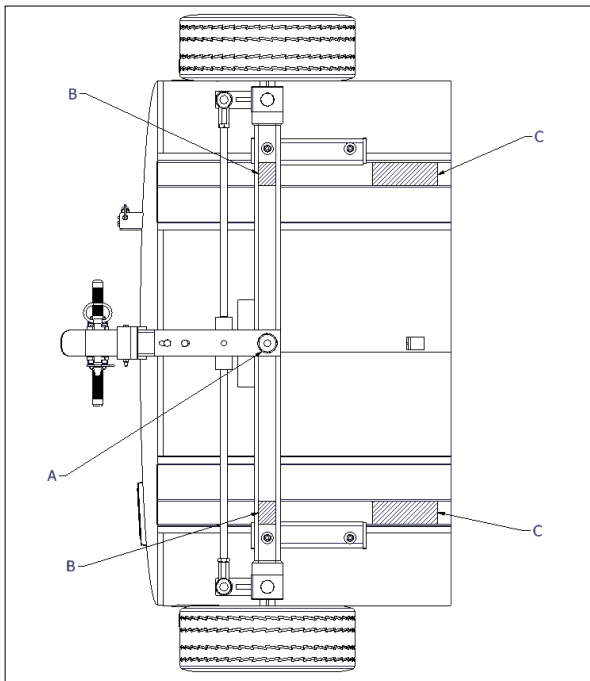

Figure 4-11 Lift Points
- Raise equipment with suitable maintenance jack (see Figure 4-11, reference arrow A for jack placement) high enough to remove wheel assembly.
- Place approved jack stands under front axle (see Figure 4-11, reference arrow B for stand placement).
To remove the entire Front Undercarriage assembly, the equipment must have the front end raised. See Figure 4-11 for lift points.
- a. Raise equipment with suitable maintenance jack (see Figure 4-11 reference arrow A for jack placement) to allow four inches of space between the wheels and ground.
- b. Place cribbing under tank skids (see Figure 4-11, reference arrows C) to safely support the equipment.
- e. Remove bolts (2) and nuts (3).
- g. Pull Front Undercarriage forward. Note location of rubber mounting pads (5).
- a. Raise equipment with suitable maintenance jack high enough to remove wheel assembly. (see Figure 4-11, reference arrow A for jack placement) .
- b. Place approved jack stands under rear axle (see Figure 4-11, reference arrow B for stand placement).